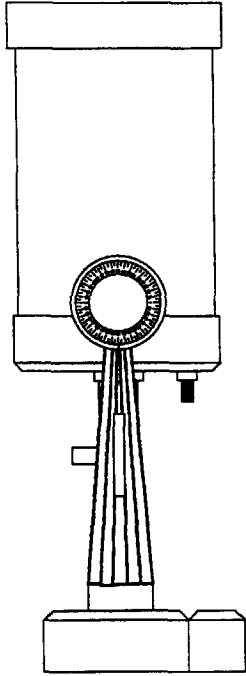

Figure 8-14
3. Release the DEC clamp and rotate the telescope tube until it is pointing straight up (see figure 8-14). To ensure that it is pointed straight up, place the bubble level across the front cell of the telescope.